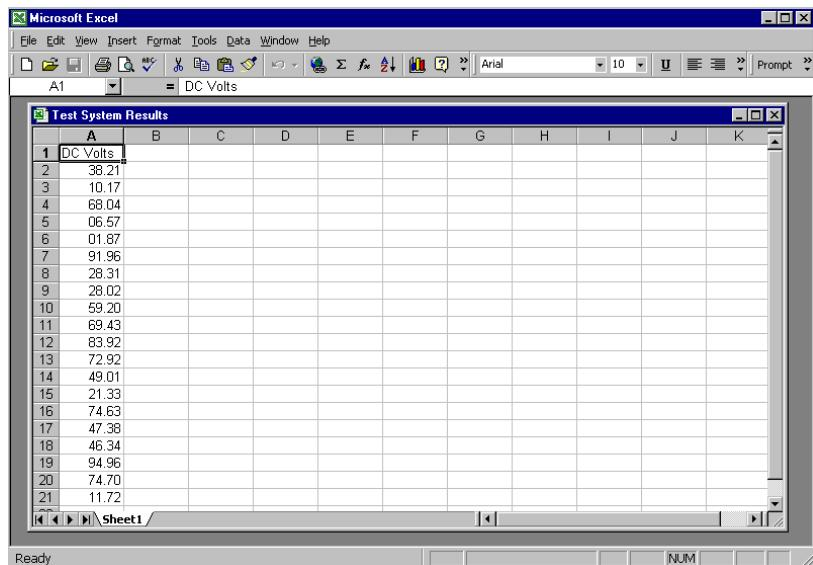

Figure 6-9. Excel Worksheet for “Results Average” Program
11. Save the program as `results_average.vee`. Run the program. MS Excel will launch with a worksheet like the one shown in Figure 6-9.